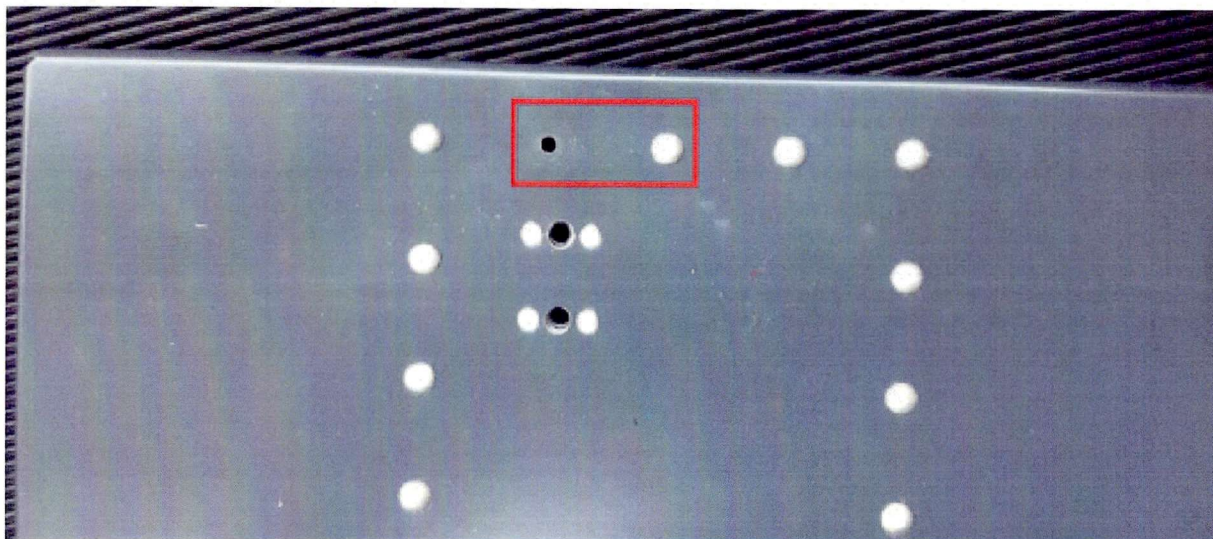

FIGURE 1: RIVET REPLACEMENT LOCATION
1. Dimple the aluminum panel in the required rivet locations as shown in Figure 1 of this DSI in accordance with the Aircraft Maintenance Manual.